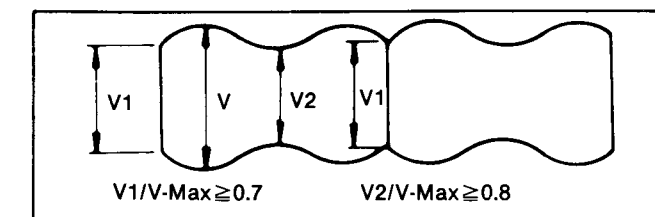

Fig. M24
- (1) Set the tracking control to the fixed (neutral) position by pushing both of the tracking control Up/Down Switches, on the Main C.B.A., in at the same time. Connect the oscilloscope to TP3501 on the Main C.B.A. Use TP2001 as a trigger.
- (2) Play back the monoscope portion of the Alignment Tape and confirm that RF envelope appears, as in Fig. M24.
- (3) If adjustment is required, slowly move the A/C Head Base back and forth using a screwdriver by turning screw (D) so that the envelope is at a maximum.